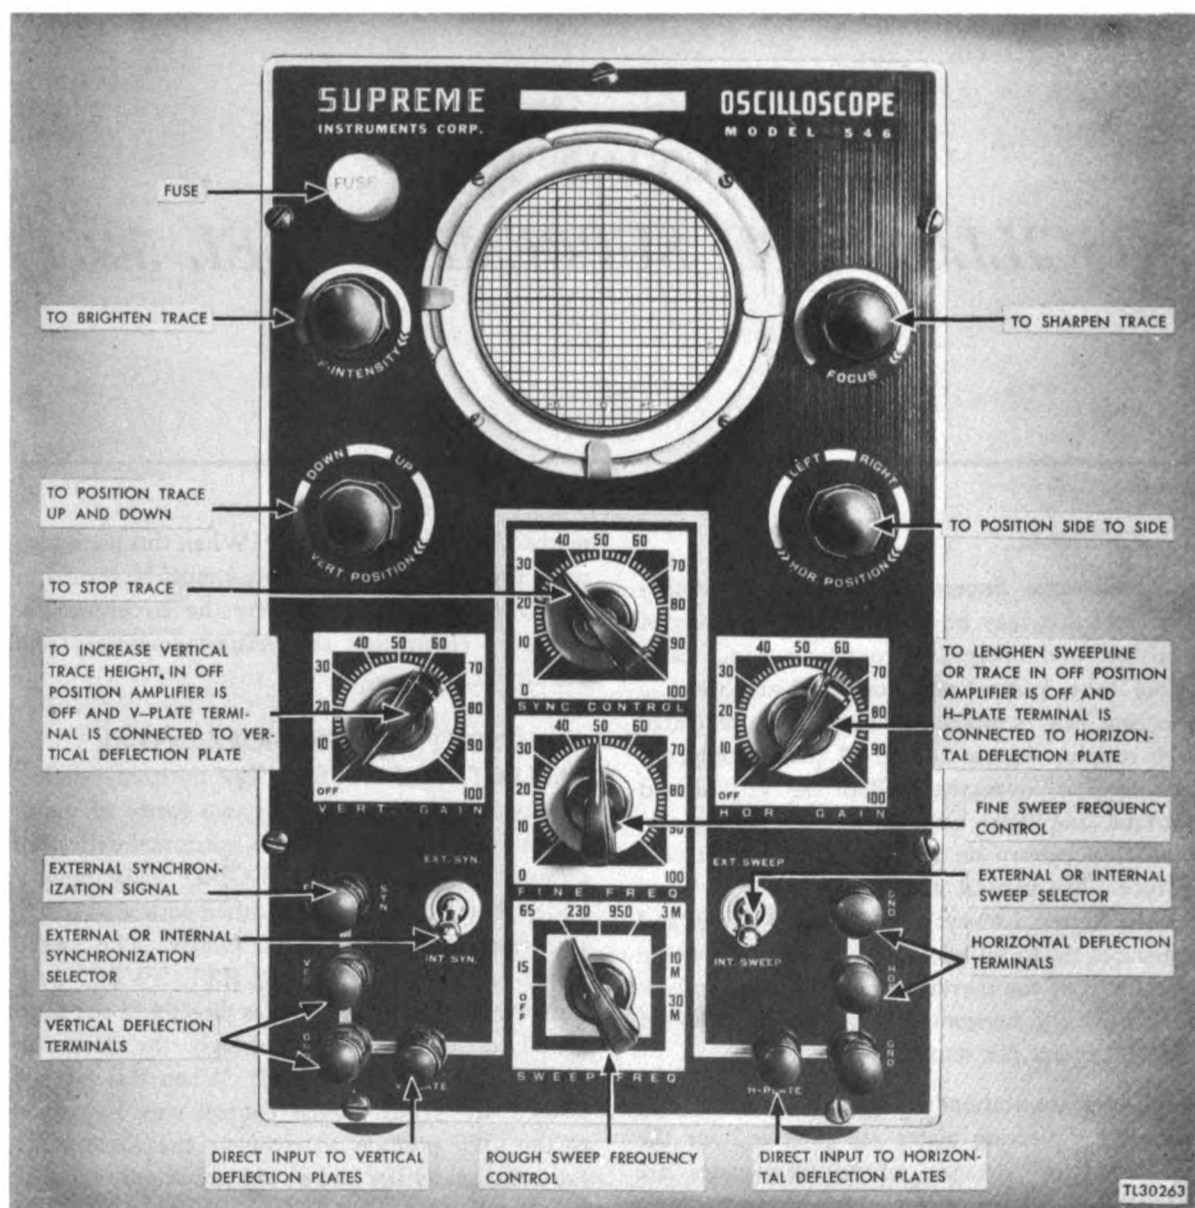

Figure 28. Oscilloscope, Supreme model 546, panel view.
a. Oscilloscope Supreme model 546 is another instrument that may be provided for the study of waveforms and voltages. It contains a 3-inch cathode-ray tube, vertical and horizontal amplifiers, a linear time base or sweep generator, and a regulated power supply. Figures 28 and 29 are a photograph and schematic, respectively. Both the vertical and horizontal amplifiers are designed to produce an undistorted pattern on the screen of the cathode-ray tube. The vertical amplifier is especially compensated to pass a 60-cycle square-wave voltage and frequencies up to 90 kilocycles. The internal-sweep generator is of the thyratron gaseous-discharge type and provides a horizontal linear sweep from 15 to 30,000 cycles per second.
a. Oscilloscope Supreme model 546 provides for two forms of input to the vertical deflecting plates. One input arrangement is through the vertical-deflection input terminals indicated as VER and GND in figure 28. This input is under the control of an amplifier with a variable-gain control marked VERT. GAIN.